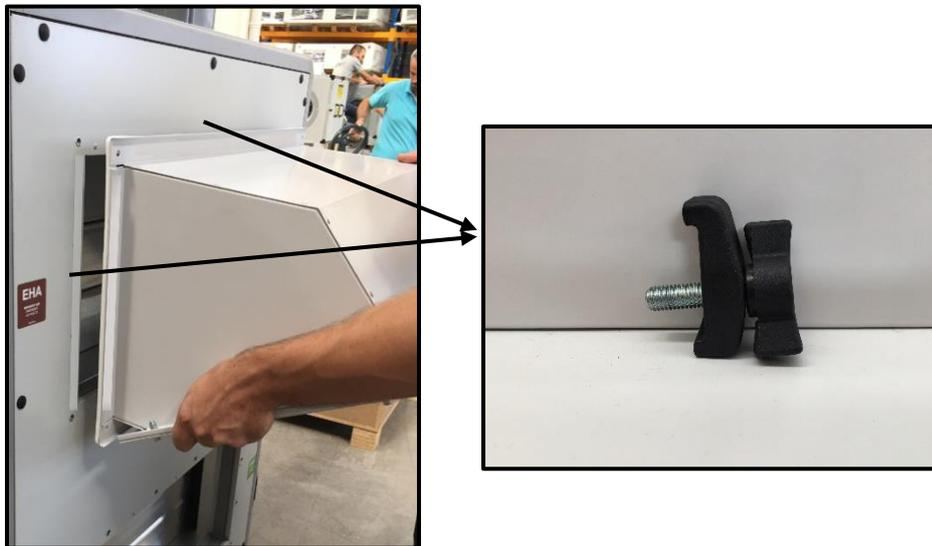

Fig. 143
2. Connect the spigot to the device from the corners with M8x16 bolts. (Fig. 143)